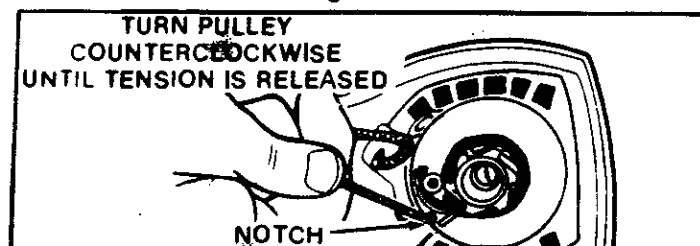

Figure 41
6. If the starter rope is not broken, release the spring tension by pulling about 10 inches of rope from the pulley and catch the rope in the notch as shown. Figure 41.
14. Guide rope inside pulley, then through the pulley hole. Figure 41.